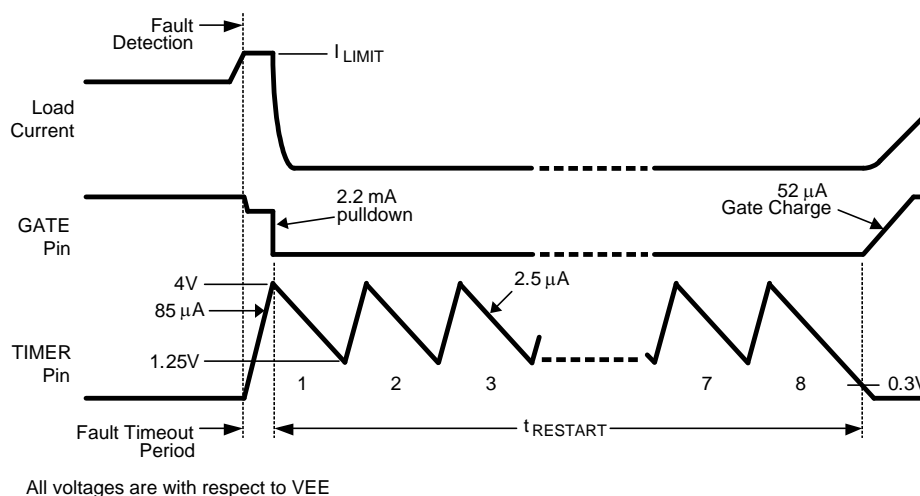

Figure 9. Restart Sequence (LM5067-2)
When the current limit or power limit threshold is reached during turn-on or as a result of a fault condition, the gate-to-source voltage of Q1 is modulated to regulate the load current and power dissipation in Q1. When either limiting function is active, an 85  $\mu\text{A}$  fault timer current source charges the external capacitor ( $C_T$ ) at the TIMER pin as shown in Figure 9 (Fault Timeout Period). If the fault condition subsides before the TIMER pin reaches 4.0V, the LM5067 returns to the normal operating mode and  $C_T$  is discharged by the 2.5  $\mu\text{A}$  current sink. If the TIMER pin reaches 4.0V during the Fault Timeout Period, Q1 is switched off by a 2.2 mA pull-down current at the GATE pin. The subsequent restart procedure depends on which version of the LM5067 is in use.
The LM5067-2 provides an automatic restart sequence which consists of the TIMER pin cycling between 4.0V and 1.25V seven times after the Fault Timeout Period, as shown in Figure 9. The period of each cycle is determined by the 85  $\mu\text{A}$  charging current, and the 2.5  $\mu\text{A}$  discharge current, and the value of the capacitor  $C_T$ . When the TIMER pin reaches 0.3V during the eighth high-to-low ramp, the 52  $\mu\text{A}$  current source at the GATE pin turns on Q1. If the fault condition is still present, the Fault Timeout Period and the restart cycle repeat.
**C) Restart Timing** If the LM5067-2 is in use, after the Fault Timeout Period described above,  $C_T$  is discharged by the 2.5  $\mu A$  current sink to 1.25V. The TIMER pin then cycles through seven additional charge/discharge cycles between 1.25V and 4.0V as shown in Figure 9. The restart time ends when the TIMER pin voltage reaches 0.3V during the final high-to-low ramp. The restart time, after the Fault Timeout Period, is equal to: